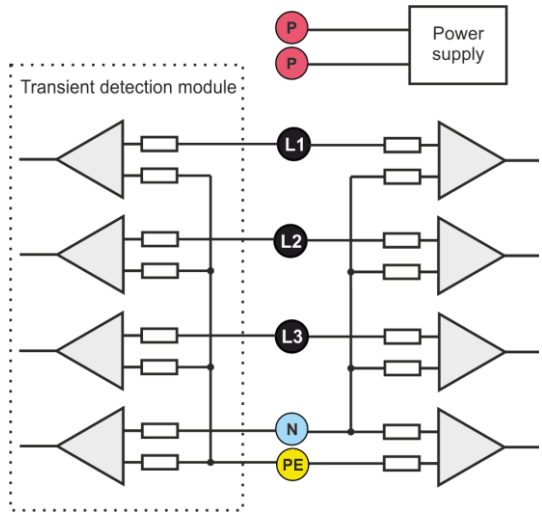

Fig. 40. Voltage inputs (with transient module) and AC adapter
The voltage input block is shown in Fig. 40. Two measurement blocks are shown: on the right side of terminals main voltage circuits are presented - they are used for majority of voltage measurements. Sampling frequency of this circuit is 10.24 kHz. Three phase inputs L1/A, L2/B, L3/C and ground conductor (PE) have common reference line, which is the N (neutral) conductor.
Fig. 40 presents that the power supply circuit of the analyzer is independent of the measuring circuit. The power adapter has a nominal input voltage range 100...690V AC and has separate terminals.
Measuring lines are referenced to PE input (see also Fig. 40). Transient module monitors the voltage between the inputs: